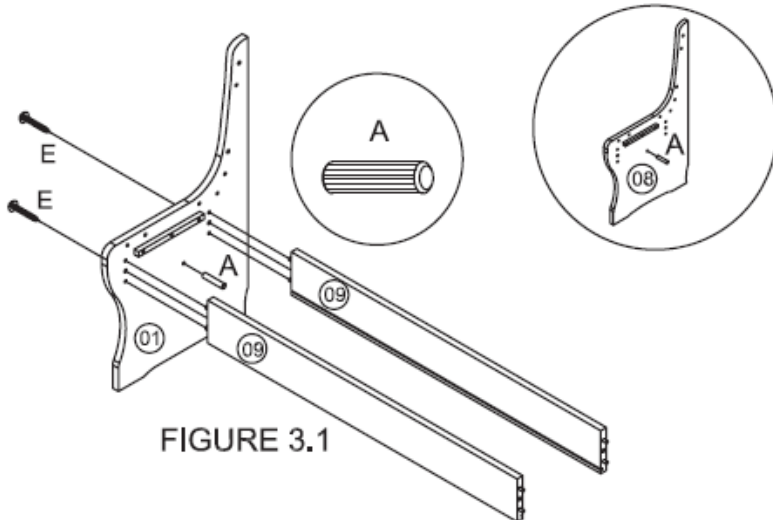
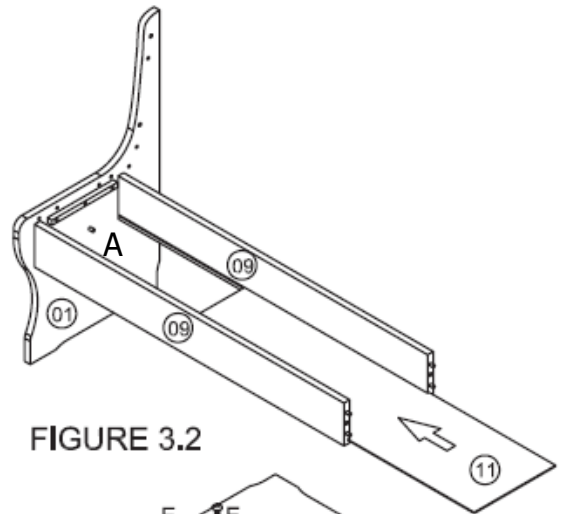

FIGURE 3.1
FIGURE 3.2
- Refer to Figure 3.1 - Attach Front & Back Rail (9) for Double Bench to remaining Middle Leg (1) via wood dowels on (9). Check that the groove on each rail is at the bottom and facing inward towards each other.
- Use Screw (E) to fasten (9) to (1).
- Insert a Wood Dowel (A) into (1) & (8) as shown.
- Fit Storage Bottom (11) via groove on Front and Back Rail (9) as shown in Figure 3.2, and check that (11) sits on Wood Dowel (A) on (1)